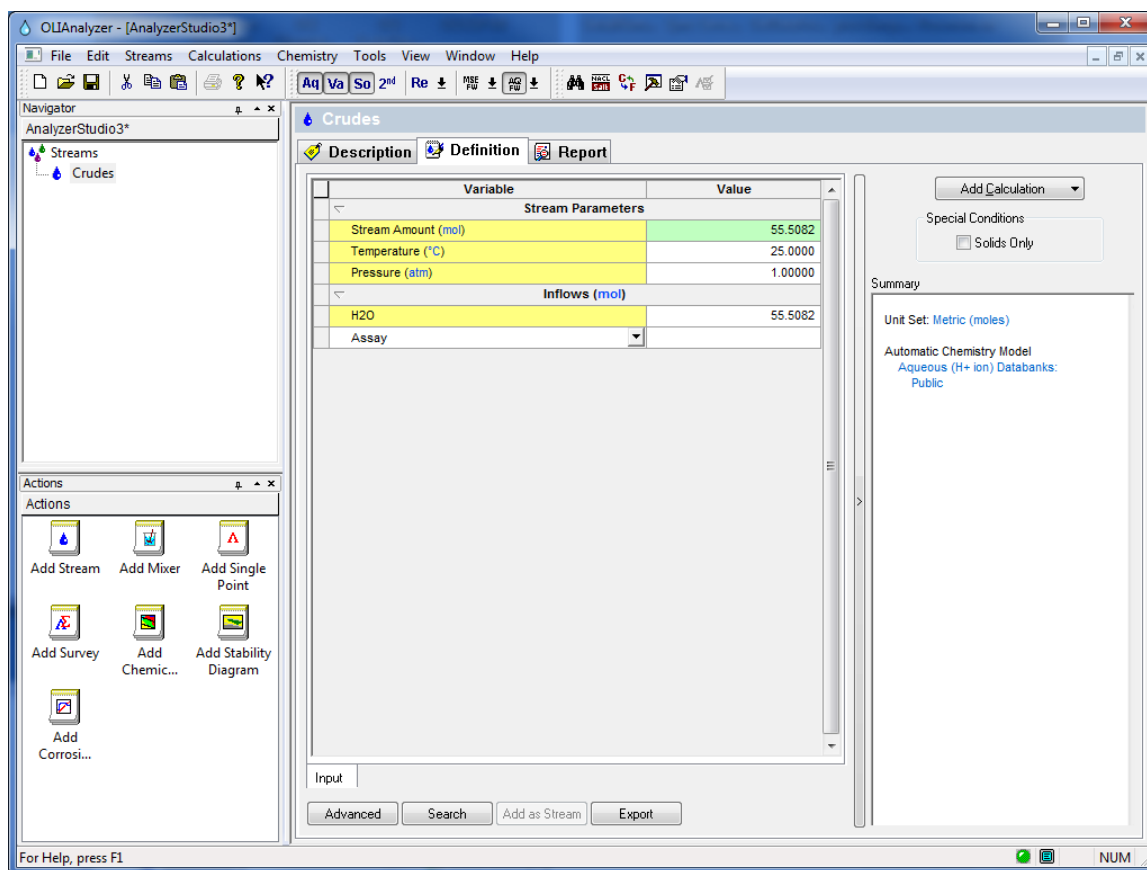

Figure 13-1 Entering a petroleum sample, Don't press ENTER yet!
**After entering the name Assay Do Not (repeat Do Not) press any other key! See Figure 13-1**